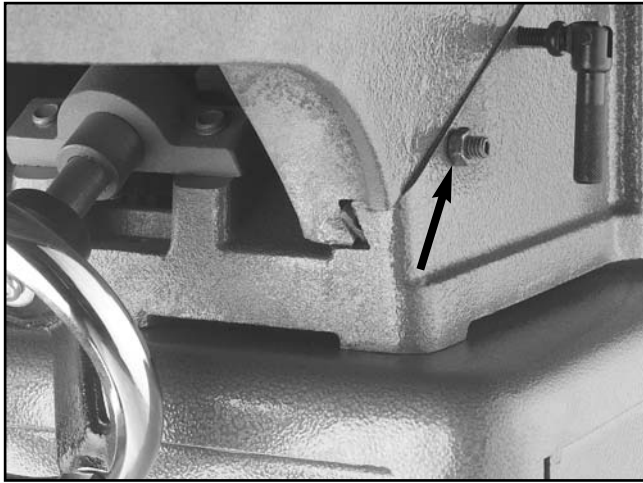

Figure 56. Table gib lock nuts and setscrews.
2. Loosen the lock nuts and setscrews shown in **Figure 56** on the next page. Make sure you support the table as you loosen it to prevent it from dropping to the end of its travel.